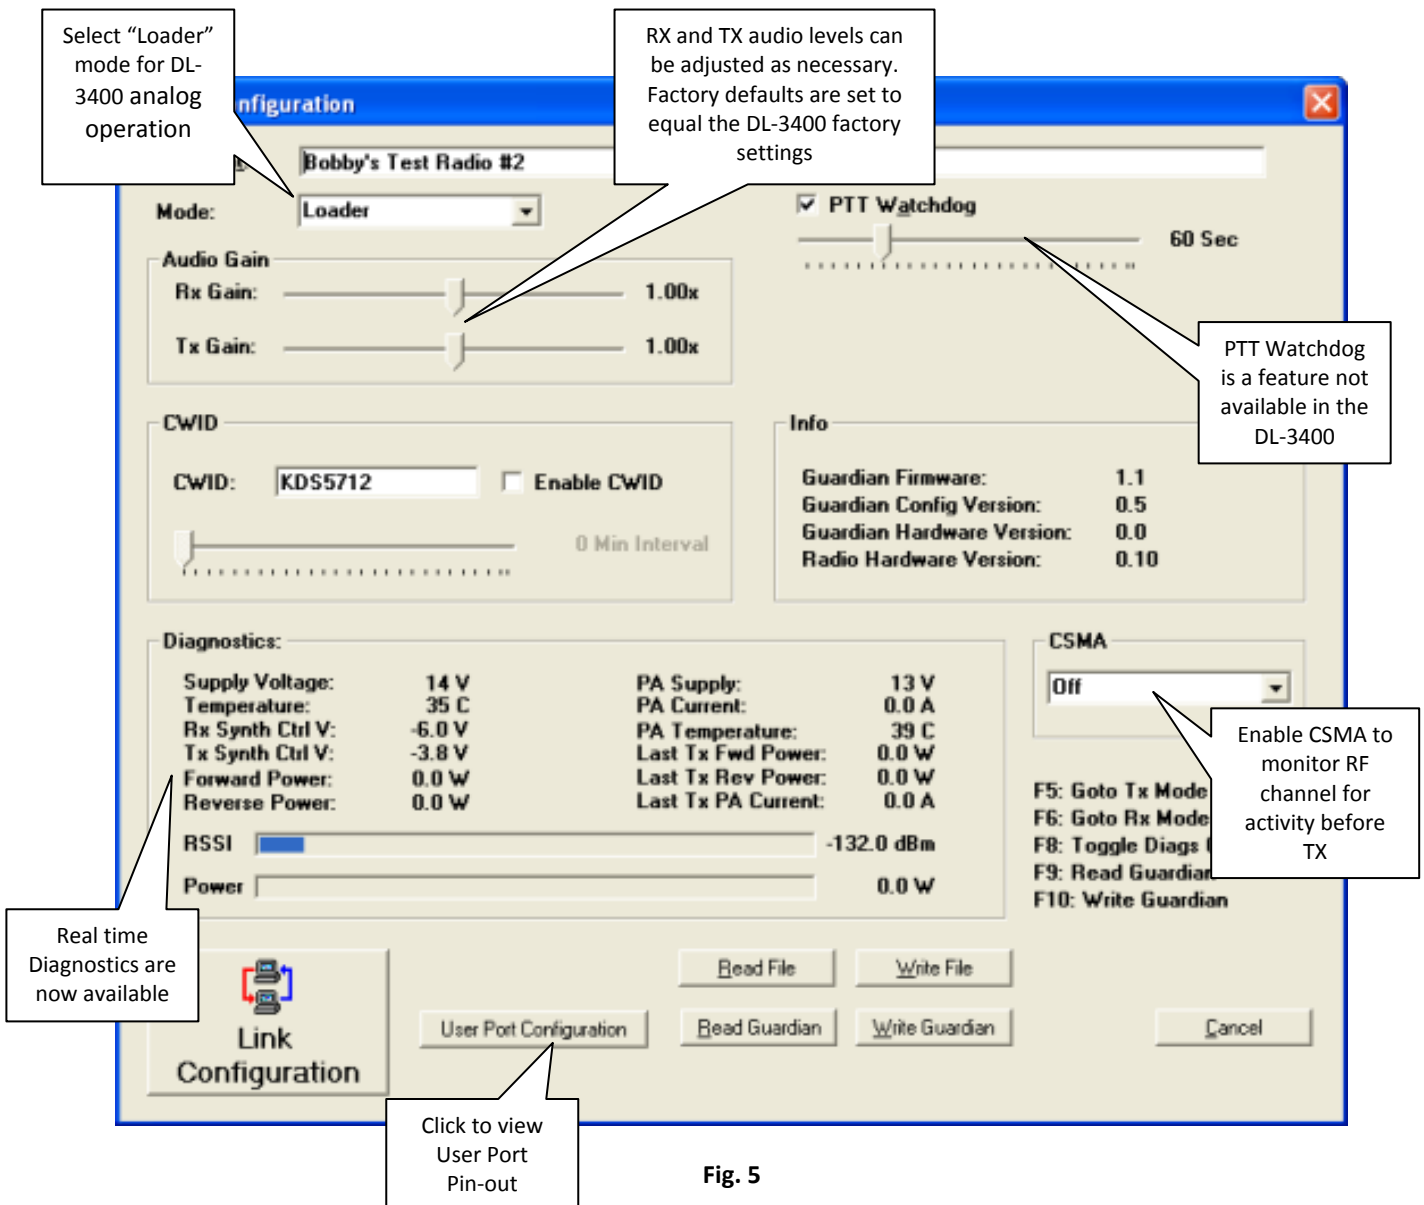

Fig. 5
The Guardian FPS will read and display the current configuration of the radio/modem connected to the computer. (Fig. 5). Selection of “Loader” mode will change the configuration screen to allow analog radio settings.
- CWID is a new feature not available on the DL-3400. Station /License call signs can be transmitted at selected intervals. This feature is used when the analog system shares a ‘Voice Channel’ with another system and is required to identify itself using Morse code. (Fig. 5)
- The Guardian RX and TX audio levels are preset to match the DL-3400 factory levels. These can be adjusted as necessary for the User’s application. See manual 001-5006-000 for additional information. (Fig. 5)
- See Fig. 5
- There is a new feature added to the Guardian that allows the radio to be used as a modem (T-96SR compatible) or to be used as an analog radio (DL-3400 compatible). For this application only the ‘Loader’ mode will be used. (Fig. 5)
The User Port pin-out configuration can be displayed by clicking the “User Port Configuration” button on the User Configuration screen. (Fig. 5)